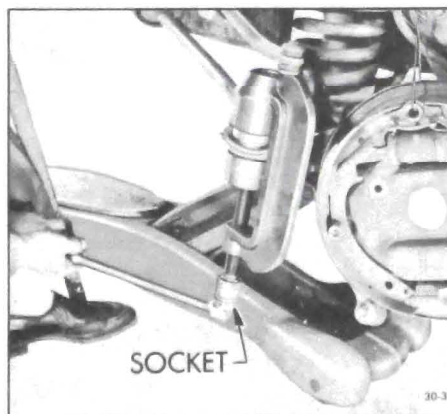

Figure 30-35 - Installing Lower Ball Joint
2. With a suitable socket and handle force the ball joint into the lower control arm until it is fully seated as shown in Figure 30-35.